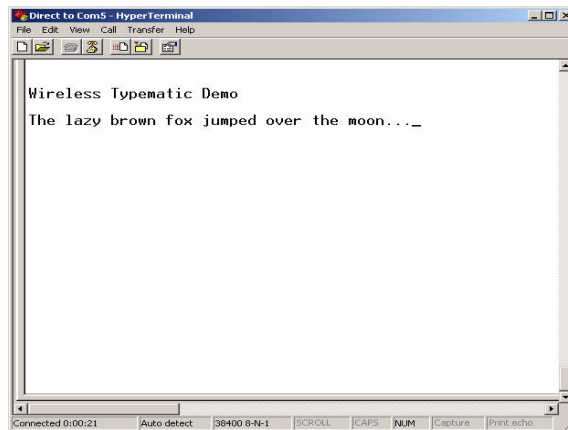
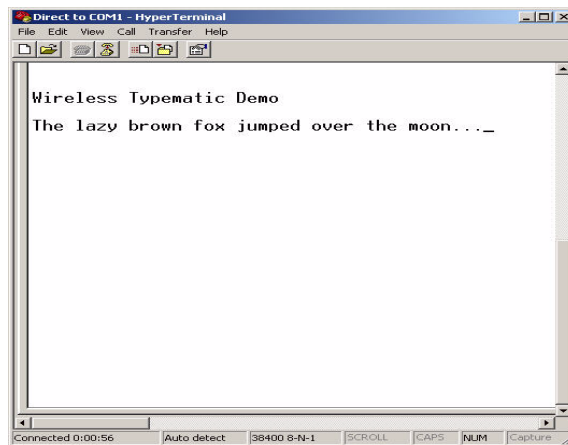

Figure 26. Wireless UART Board 1 (Output to Board 2)
Figure 27. Wireless UART Board 2 (Input from Board 1)
- Once both boards are reset and proper RS-232 connectivity is established, type some characters in the HyperTerminal Session (Board 1) window (Figure 26) and the typed message will appear on the other PC's HyperTerminal Session (Board 2) window (Figure 27).